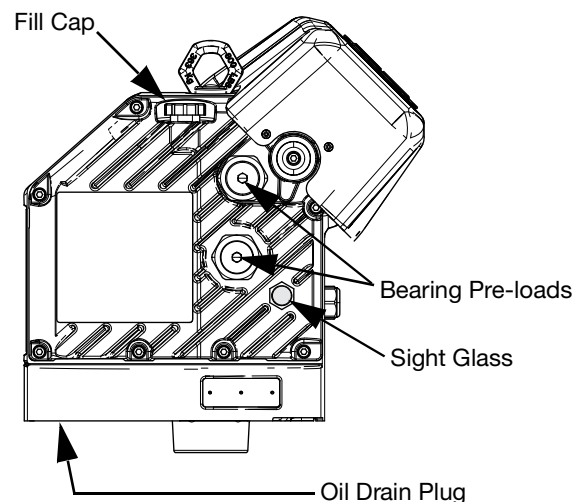

FIG. 14: Sight Glass and Oil Fill Cap
3. Remove the oil drain plug. See FIG. 14 for the location of the drain plug. Allow all oil to drain from the driver.
Refer to FIG. 14 below. Check the oil level in the sight glass on a regular basis. The oil level should be near the halfway point of the sight glass when the driver is not running. If the oil is low, open the fill cap and add Graco Part No. 16W645 ISO 220 silicone-free synthetic EP gear oil.